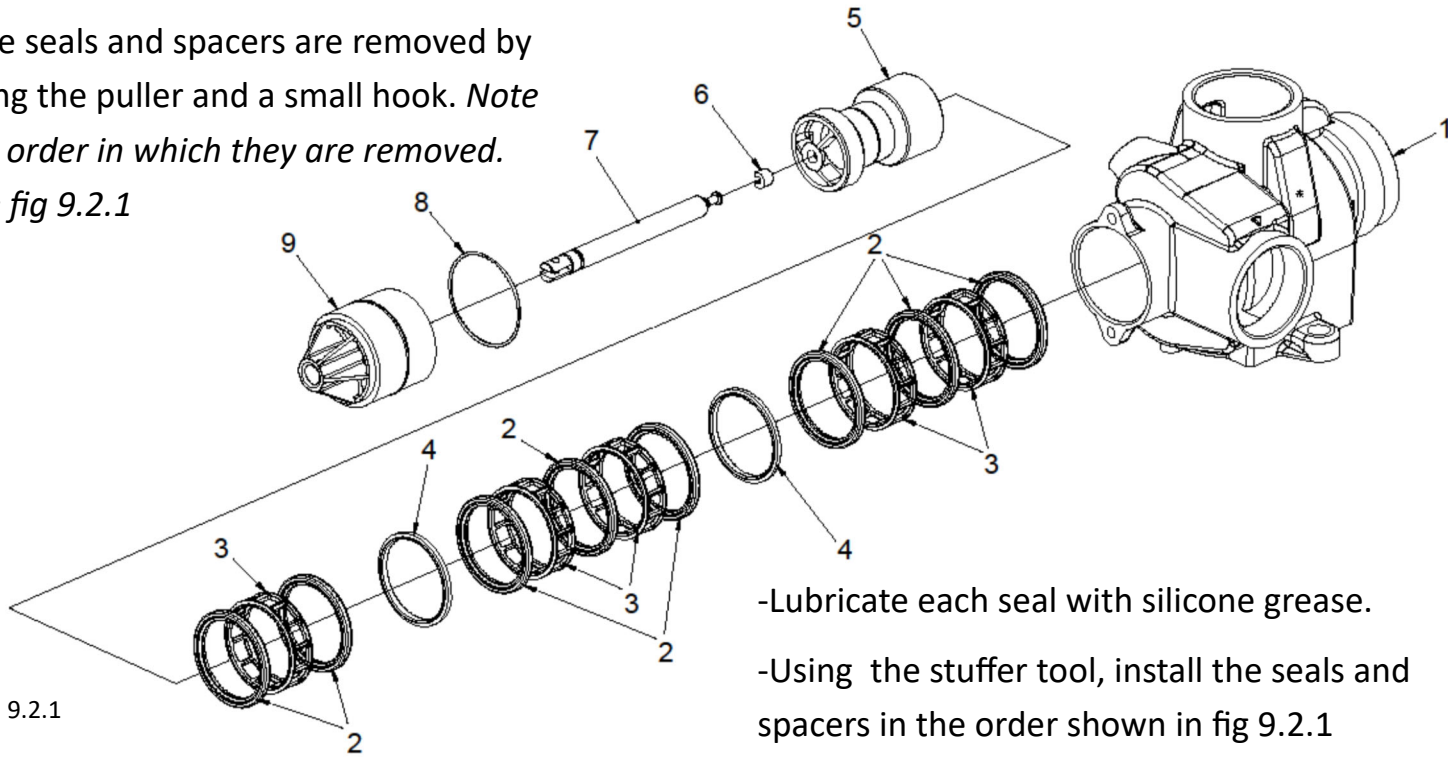

Fig. 9.2.1
See fig 9.2.1
-Using the stuffer tool, install the seals and spacers in the order shown in fig 9.2.1